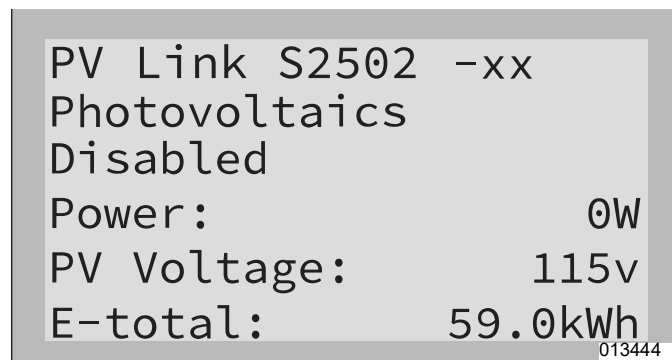
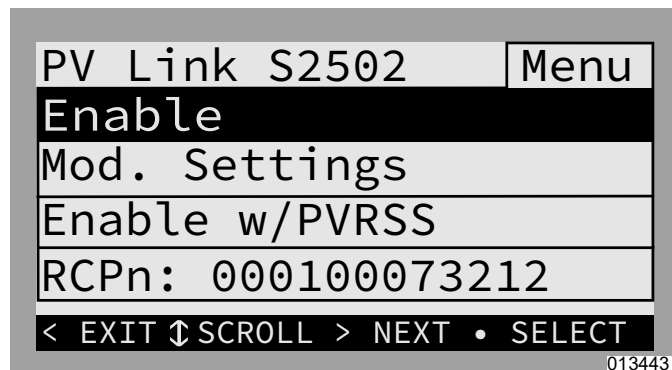
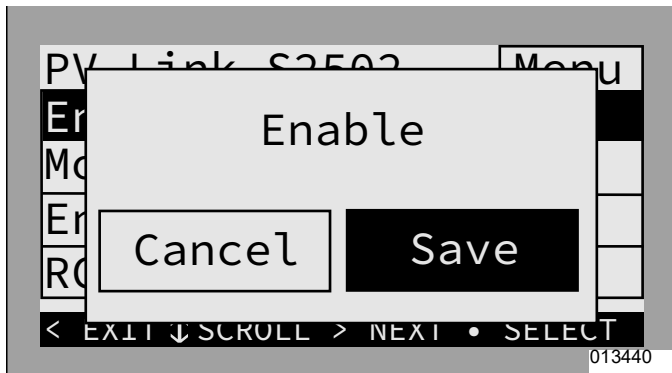

Figure 7-10. Enabling REbus Devices (1 of 3)
Figure 7-11. Enabling REbus Devices (2 of 3)
Figure 7-12. Enabling REbus Devices (3 of 3)
10. Once the inverter is enabled and in state, “grid connected,” scroll right and enable each PV Link and PWRcell Battery, repeating the process just performed for the inverter. See Figure 7-10, Figure 7-11, and Figure 7-12. Also see Section 6: Commissioning Enable REbus Devices for more information.